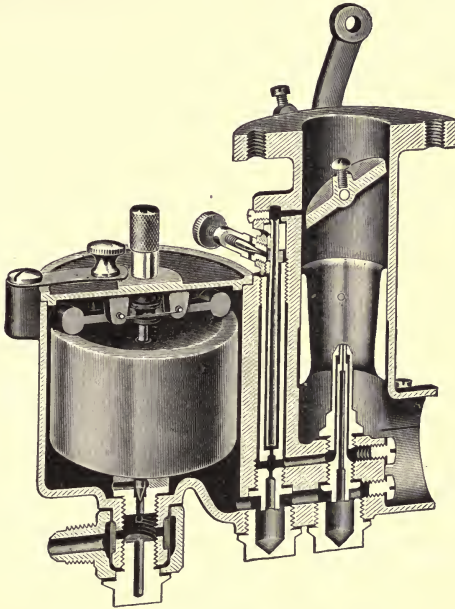

FIG. 110.—Zenith Model L carburetor.
64. Zenith Model L.—This carburetor, shown in Fig. 110, differs from most conventional types in the absence of auxiliary air valves. It is a "fixed" adjustment carburetor, and has as its particular feature the "compound nozzle." The compound nozzle consists of an inner nozzle, the gasoline for which is furnished direct from the float chamber. The amount of gasoline leaving this nozzle varies with the suction and consequently the mixture from this nozzle would be too rich at high speeds. To compensate for this rich mixture, the compensating nozzle surrounding the main nozzle furnishes a mixture "too weak" at high speeds. This is because the gasoline feed to this jet is constructed so as to be constant at all speeds. When the engine speeds up, the amount of air increases and the compensating mixture is a weak one. This answers the purpose of the auxiliary air valve on other types of carburetors and keeps the mixture of constant proportions. By a proper selection of the two nozzles a well balanced mixture can be secured through the entire range.